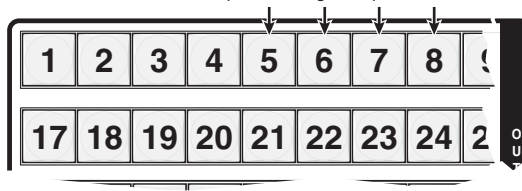

Figure 3-34 — Assign inputs and outputs
- Press and release the input 5 through 8 and output 5 through 8 buttons (figure 3-34).